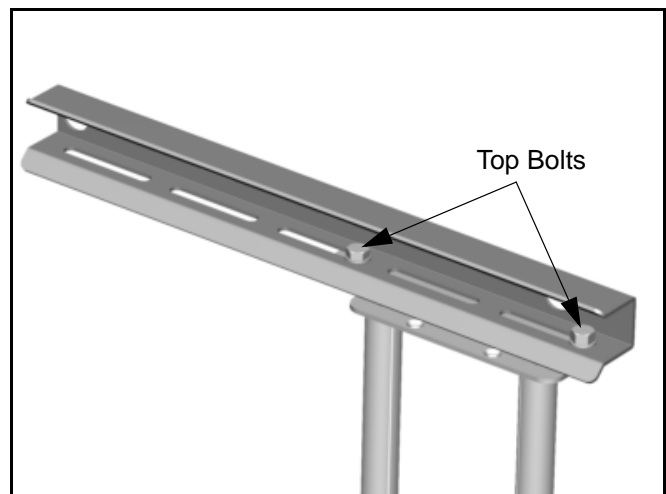

Figure 14: Adjust Swing Arm- Right of Center
- For Right of Center, see Figure 14.